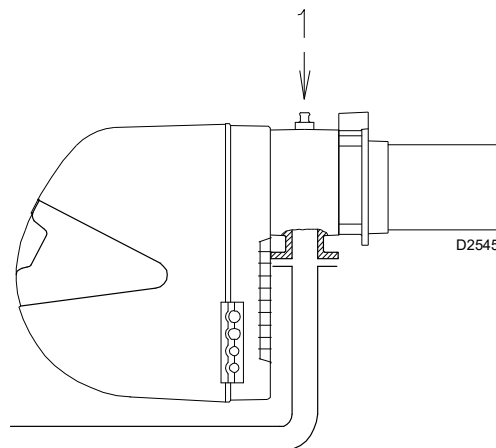

Fig. 26
Gas manifold pressure measured at test point 1)(Fig. 26), with:
- subtract the combustion chamber pressure from the gas pressure measured at test point 1)(Fig. 26).
Gas pressure at test point 1)(Fig. 26) = 5.24" WC